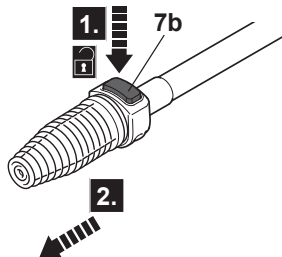

Fig. 6
1. Press the release button (7b) (Fig. 6, step 1) and remove the nozzle (step 2).